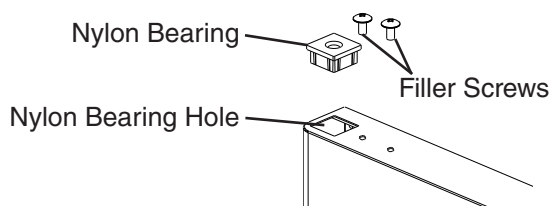

Fig. 20
- 7) Rotate the door 180 degrees, to its new orientation. Remove the nylon bearing and filler screws. See Fig. 20. **NOTICE! Care should be taken not to damage the door.** Mount the nylon bearing and filler screws into the holes left by the spring cartridge in the lower section of the door. See Fig. 21.